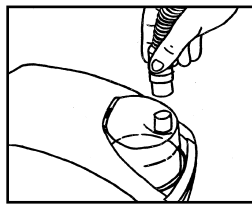

Fig 5
8. One end of the tube has a white plastic connector. Push this onto the outlet on top of the chamber. (See Fig. 5)